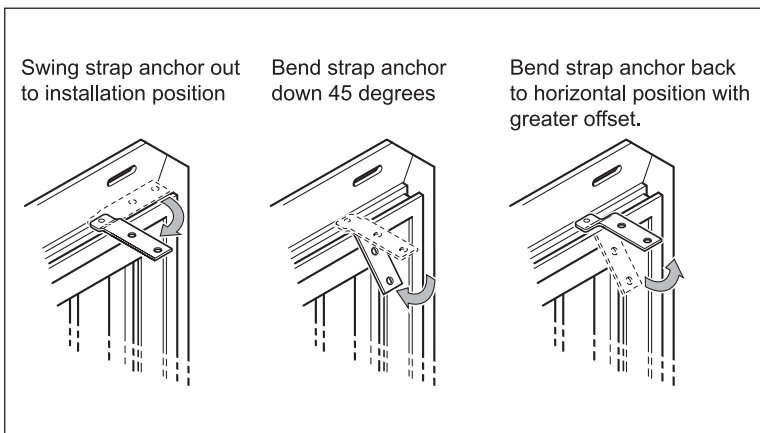

Figure 1-5. How to adjust the offset of the strap anchor.
- 2.8 Nail or screw all strap anchors to the wall. To adjust anchor offset see fig. 1-5.